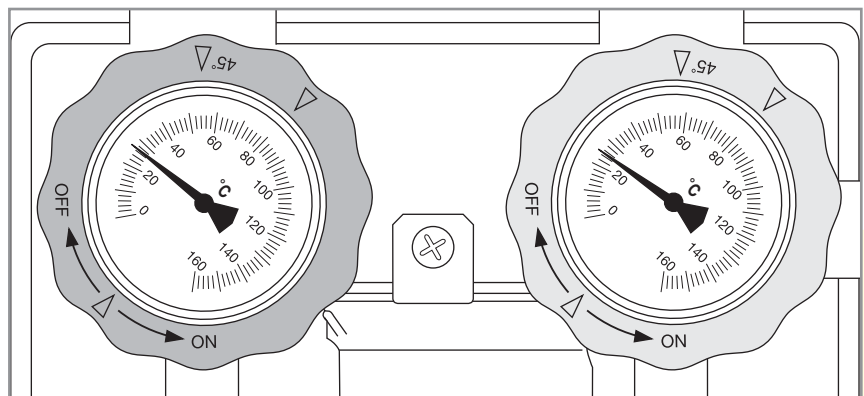

Figure 4-4: Gravity breaks open
To fill or completely empty the solar thermal installation, the gravity brakes must be opened, i.e. by turning the valve handles to the right to an angle of 45°. See Figure 4-4.
- Check that Flow and Return valves are set to 'half open' position (to open the gravity brakes) as shown in Figure 4-4 (page 11).